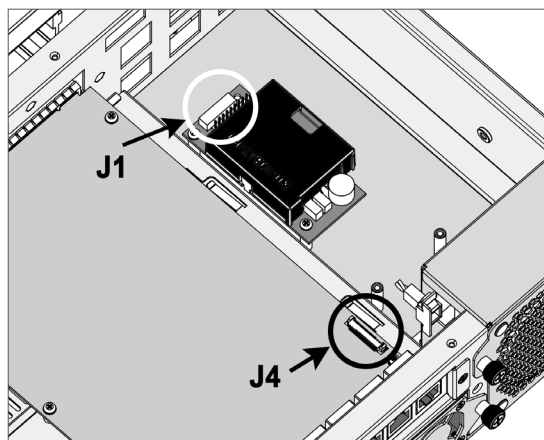

Figure B-4, Insert the cable connector into J1 & J4
3. Insert the cable connector into the **J1** (12-pin box header battery connector on ARC-6120-BAT-12G module), and also insert another side of the cable connector into the **J4** (14-pin box header battery connector on ARC-5088 backplane), as shown in Figure B-4.